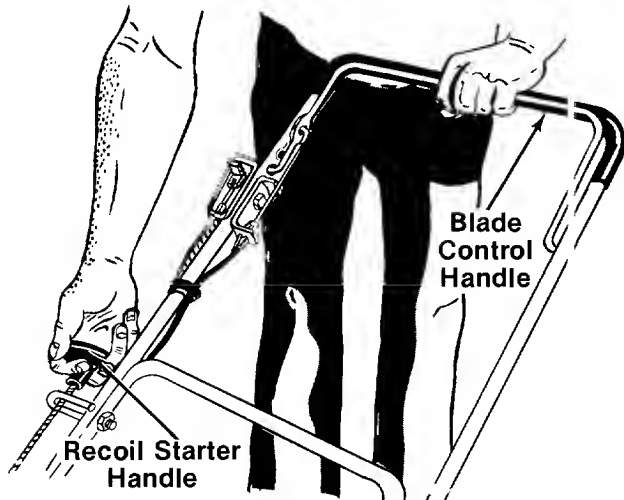

FIGURE 12.
3. Standing behind the unit, depress the blade control handle and hold it against the upper handle as shown in figure 12.